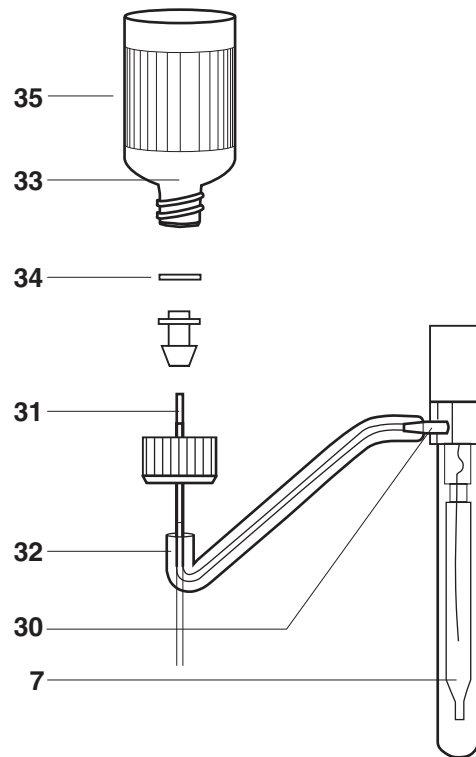

Figure 8:
1. Unpack reference electrode, **7**, (Orion 100057) and tubing from shipping box. Remove protective caps from bottom and sidearm of electrode. Save caps for future storage of electrode. Inspect internal of electrode (item **7** in **Figure 8**). Verify it is at least half filled with the internal fill solution. If not, replace the electrode.